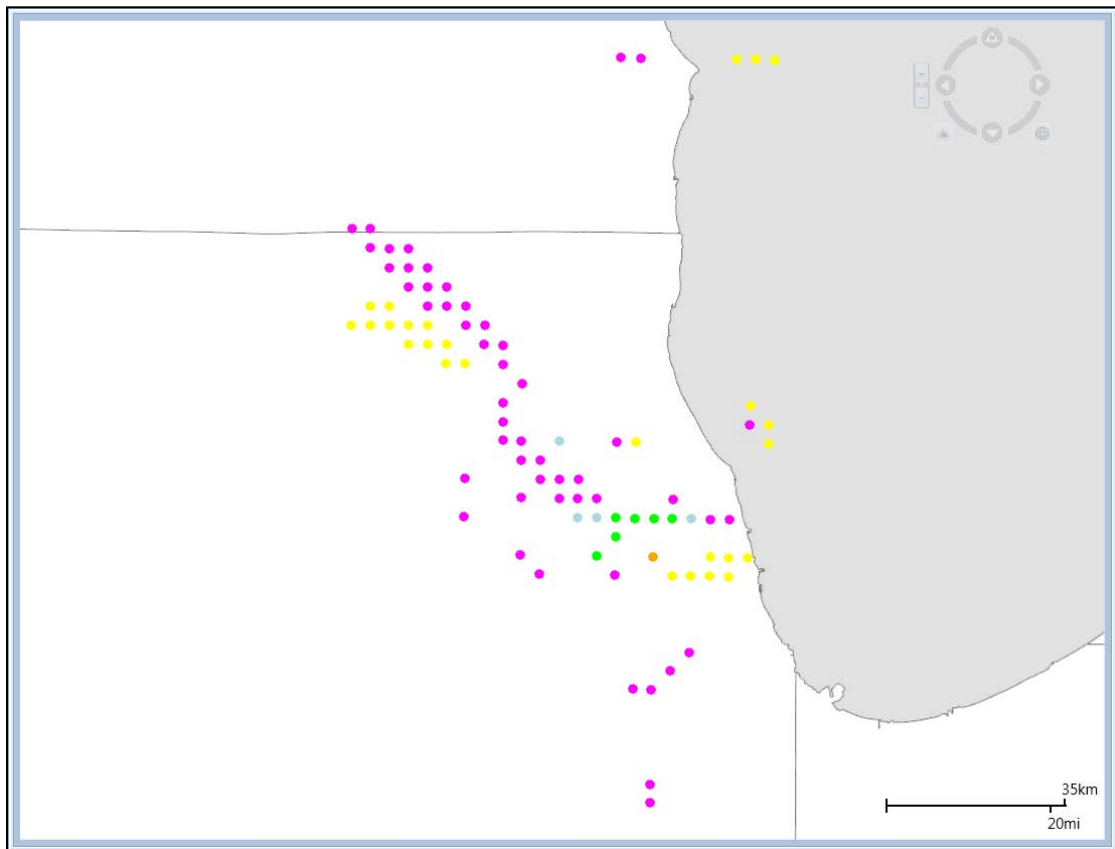

Figure 5-27 Sample Impact Set Layer
3. The impact set layer is displayed on the map (Figure 5-27) and in the *Layers* manager.